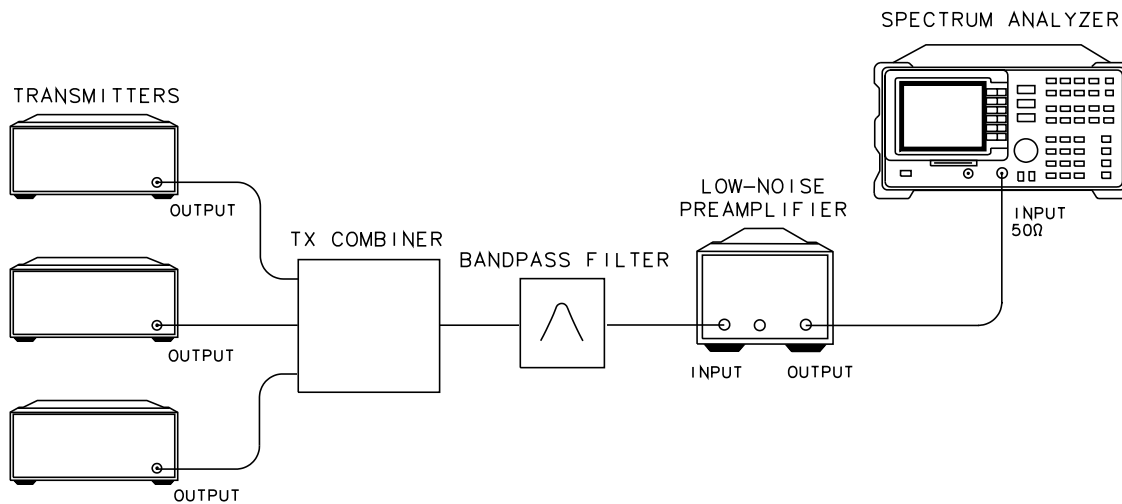

Figure 36 Test Setup for Intra-BSS Intermodulation - RX Band
- 1 Refer to Figure 36 on page 79 for the test setup.